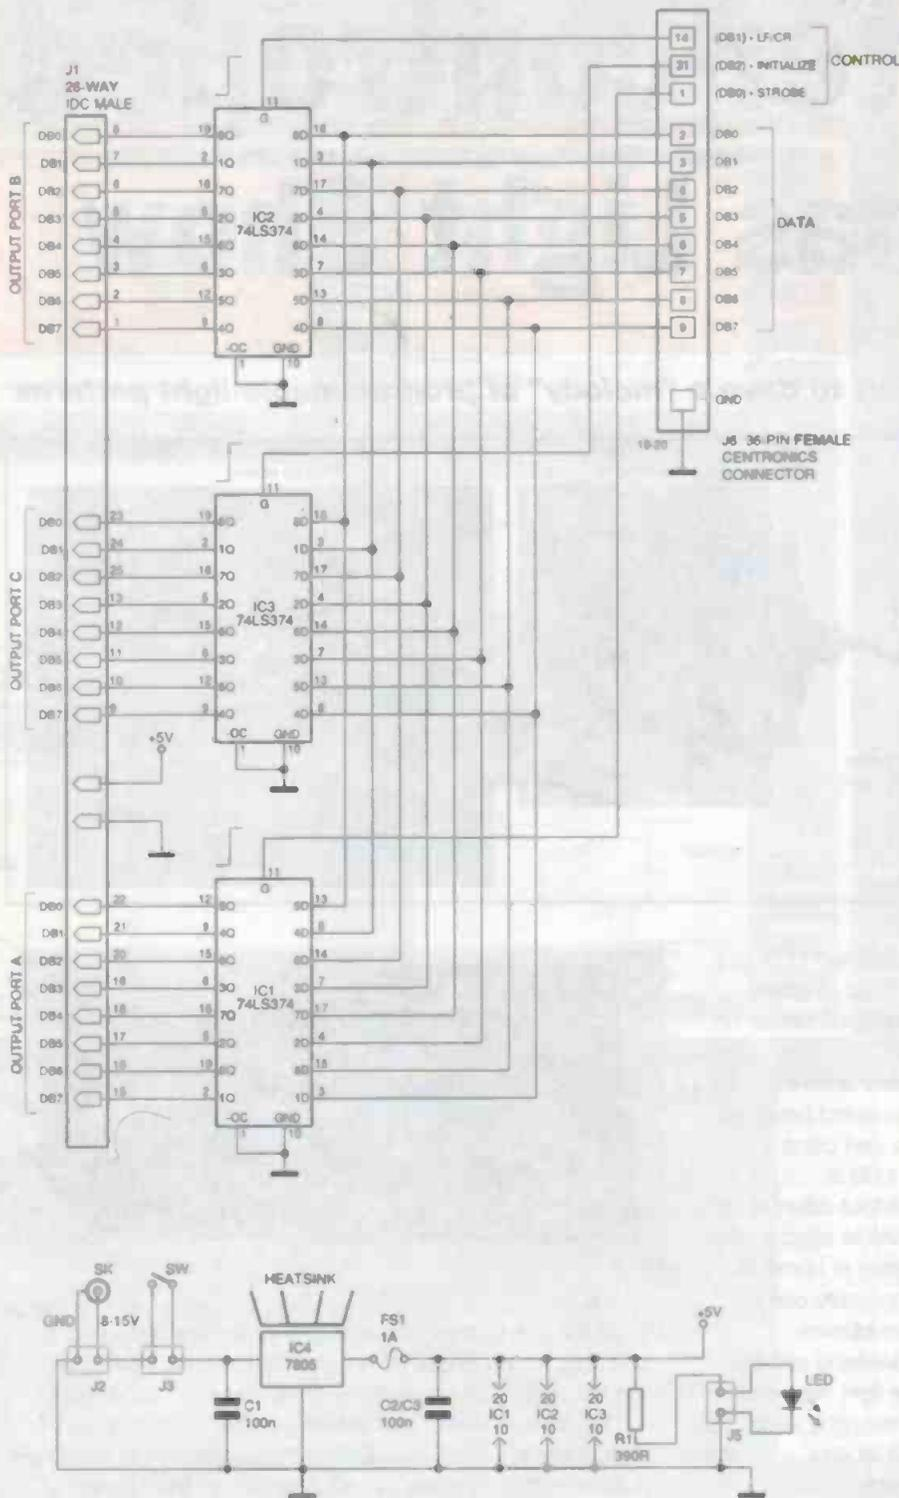

Figure 2: the circuit diagram of the Centronics I/O card
The circuit diagram of the I/O board is shown in Figure 2. It contains three 74LS374 octal latches (IC1, IC2 and IC3). The pin-out of the 74LS374 is given in Figure 3. When latching a data to the output, firstly, the data is applied to the inputs (D). Then a low-to-high-then-low pulse is applied to the CLK pin (pin